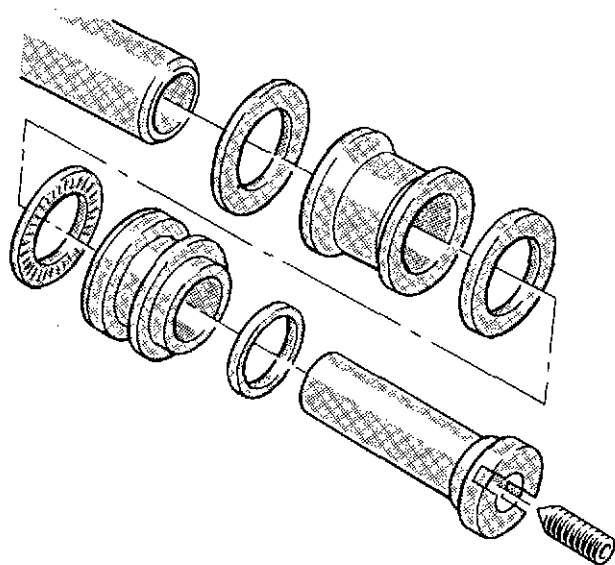

Fig. 30 Hub assembly
- 124 Fit the six governor weights into the weight cage, with the 48,3 mm diam. thrust washer resting on the thrust faces of the weights, and the bobbin type sleeve resting on the thrust washer. See figs. 30 and 31.